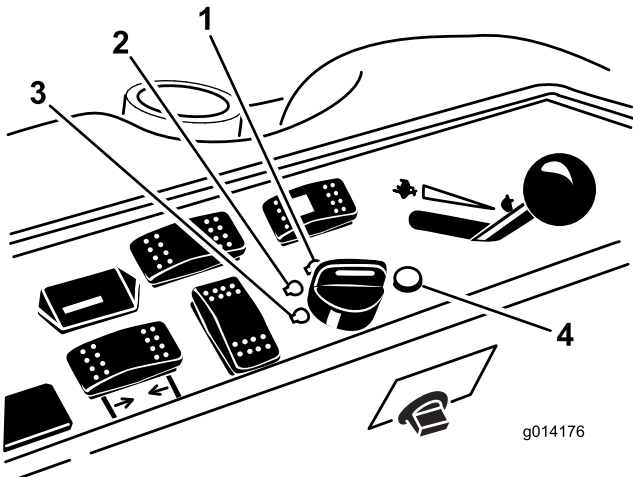

Figure 10
6. Turn the ignition key clockwise to the Run position (Figure 10).
3. Turn the ignition key to the Off position (Figure 10). Wait for all moving parts to stop before leaving the operating position.